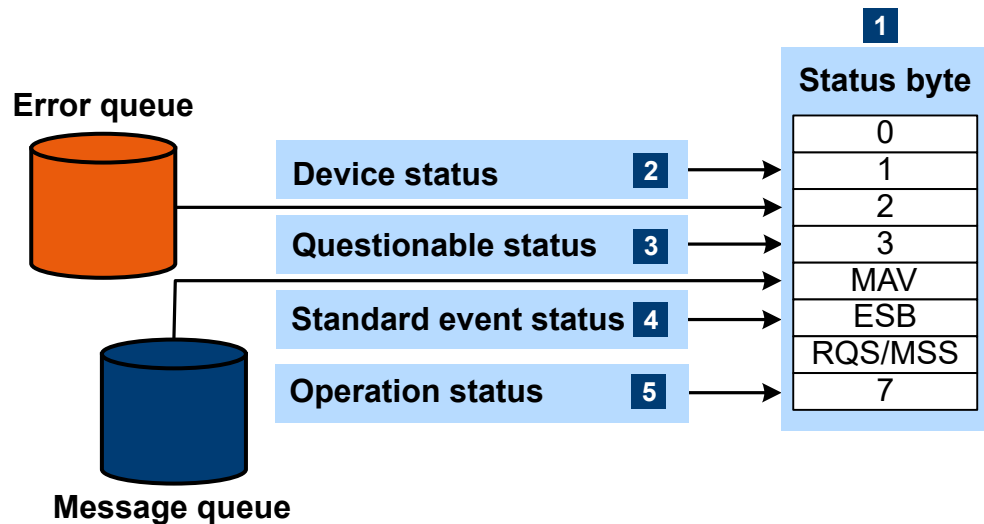

Figure 13-1: Status registers overview
Figure 13-1 shows the hierarchical structure of information in the status registers.
- See Figure 13-1.